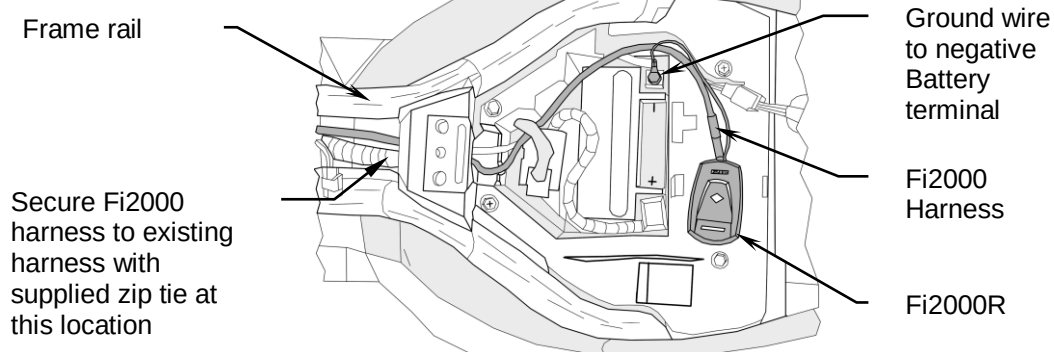
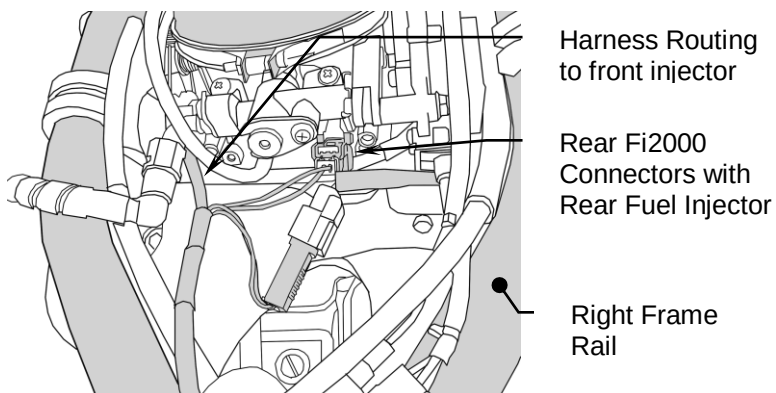

FIGURE 1
FIGURE 3
2. Temporarily position the Fi2000 module by the battery, and route the wire harness forward into the notch in plastic cover, see Figure 1. Continue routing the harness under the frame at the rear of the fuel tank, and continue it up past the left side of the throttle body assembly.
5. Locate the rear injector on the throttle body housing disconnect it and mate the corresponding male connector from the rear portion of the Fi2000 harness to it, see Figure 3. Mate the Female Fi2000 connector onto the injector. When finished, make sure the wire harness does not foul any throttle cable linkage. Install the zip tie to secure the harness as shown in Figure 1. Reinstall the fuel tank by reconnecting the brown four-pin connector and dry brake fuel line to the fuel tank.
6. Connect the Fi2000 ground wire (black), to the negative post of the battery and attach the Fi2000R module to the top of the plastic panel with the supplied Velcro, see Figure 1. Before reinstalling the seats verify all connections are made properly.
7. Remove the door from the Fi2000 module to expose the LED's. Verify the wire connections by (1) turning on the ignition while watching the 3 LED's. They will all light up for a few seconds, then go off. This is correct. If you don't see lights, make sure the side stand is up, bike is in neutral, clutch is in and handle bar engine switch is set to run. If you still have no lights, re-check that all connectors are fully engaged and the ground wire is connected correctly. **(Continued to next page!) >>**